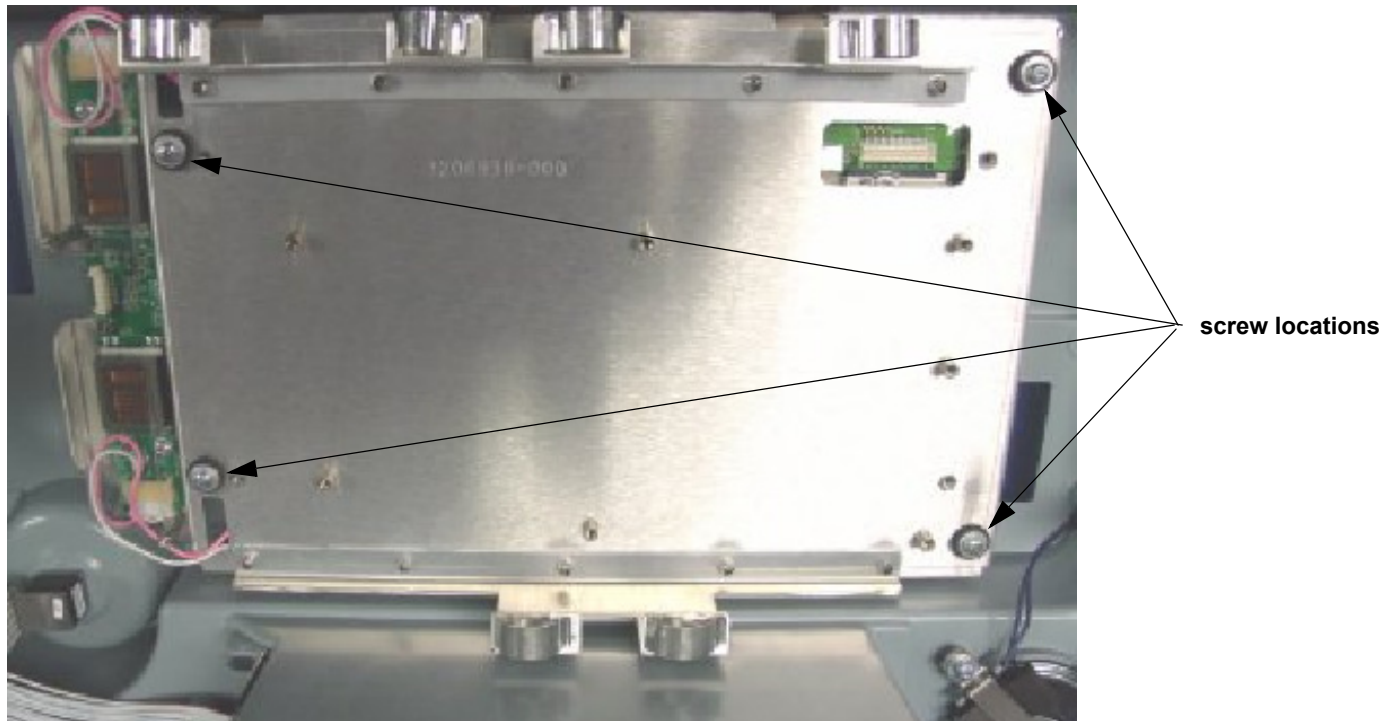

Figure 10.18—LCD display assembly screw locations
4. Remove the four LCD bracket mounting screws (202253-764) (see Figure 10.18 on p. 324). Discard the screws.